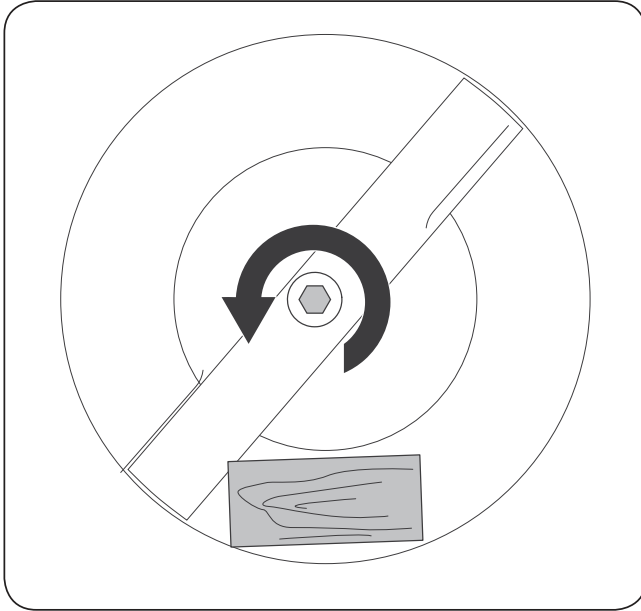

Figure 16
3. Tip the machine onto its side with the air filter and carburetor facing up. Use a block of wood to hold the blade steady. (See **Figure 16**)